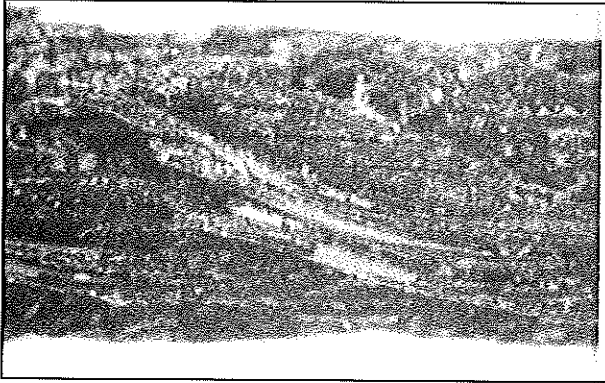

FIGURE 7-21. Corrosion.
b. **Lubrication and corrosion preventive treatment** of carbon steel cables may be effected simultaneously by application of compound MIL-C-16173, grade 4, or MIL-C-11796, Class I. MIL-C-16173 compound should be brushed, sprayed, or wiped on the cable to the extent it penetrates into the strands and adequately covers the cable surfaces. It will dry "tack free" in 24 hours at  $77^\circ\text{F}$ . MIL-C-11796 compound is applied by dipping the cable for  $1/2$  minute into a tank of compound heated to  $77^\circ \pm 5^\circ\text{C}$  ( $170^\circ \pm 9^\circ\text{F}$ ) for  $1/2$  minute then removing it and wiping off the excess oil. (An example of cable corrosion, attributable to battery acid, is shown in figure 7-21.)